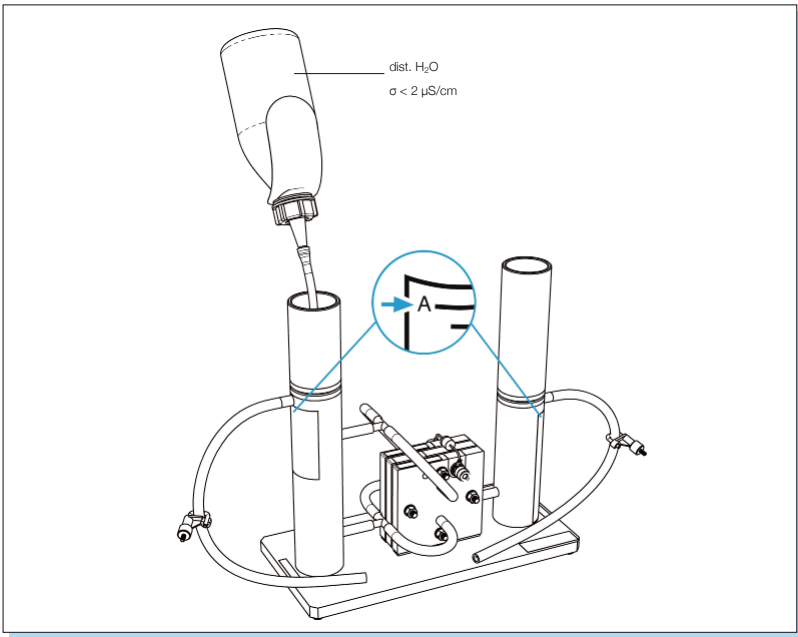

Fig. 4: Filling
- Fill both gas storage tanks with distilled water to the -A- mark ($\sigma < 2 \mu\text{S}/\text{cm}$) as shown in figure 4.